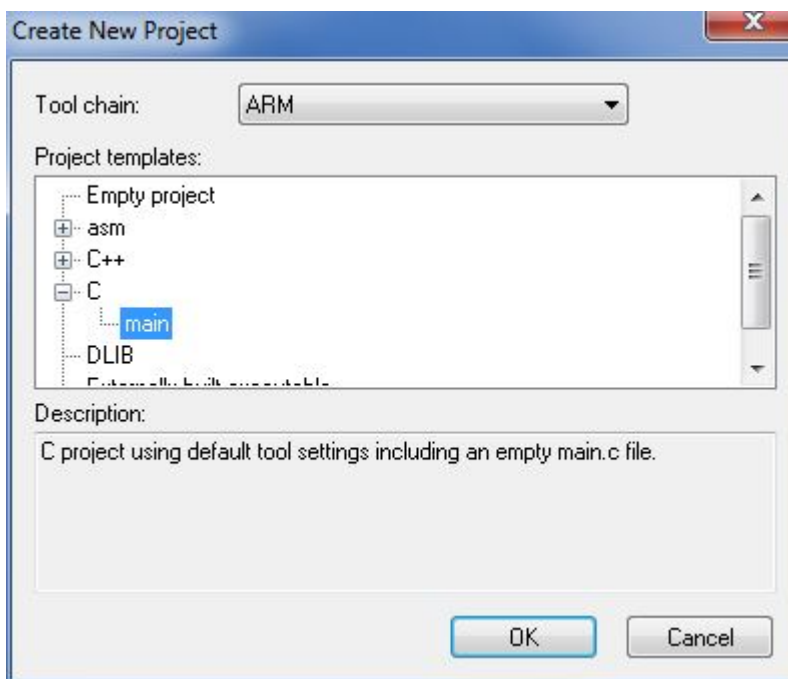

Figure 7.
2. The Create New Project dialog box appears (see Figure 7). Because you are working with a C source, select the C → main option.